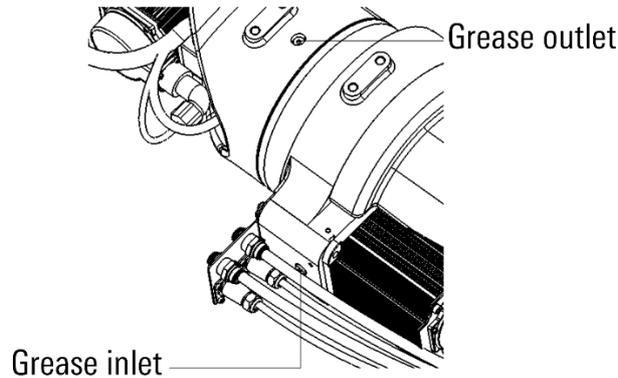

Figure 12-11 Replace the J4 axis reducer lubricating grease
- Step4. Remove the M10x1 plug from the grease outlet, as shown in Figure 12-11.